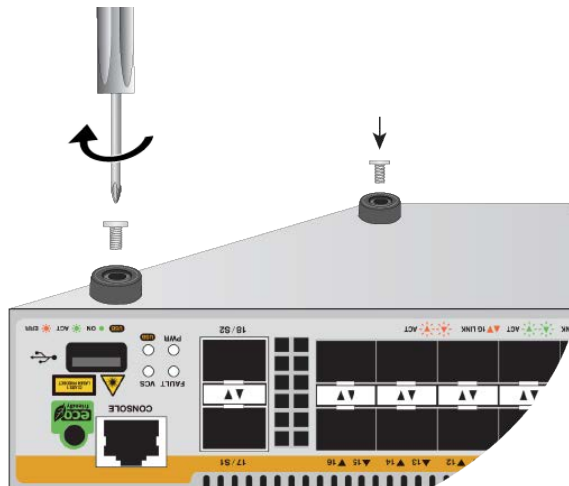

Figure 21. Attaching the Bumper Feet Using Screws
3. Attach the bumper feet to the switch using the M3x6mm screws and a crosshead screwdriver. See Figure 21.